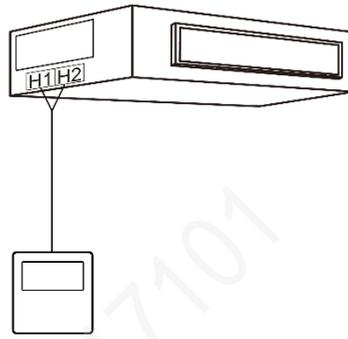

Fig.5.4.1
- (1) Open electric box cover of indoor unit.
- (2) Let the communication wire go through the rubber ring.
- (3) Connect the communication wire to terminal H1 and H2 of indoor 4-bit wiring board.
- (4) Fix the communication wire with wire clip on the electric box.
- (5) Wiring instruction for the wired controller.
- See Fig.5.4.1 for the installation of wired controller.